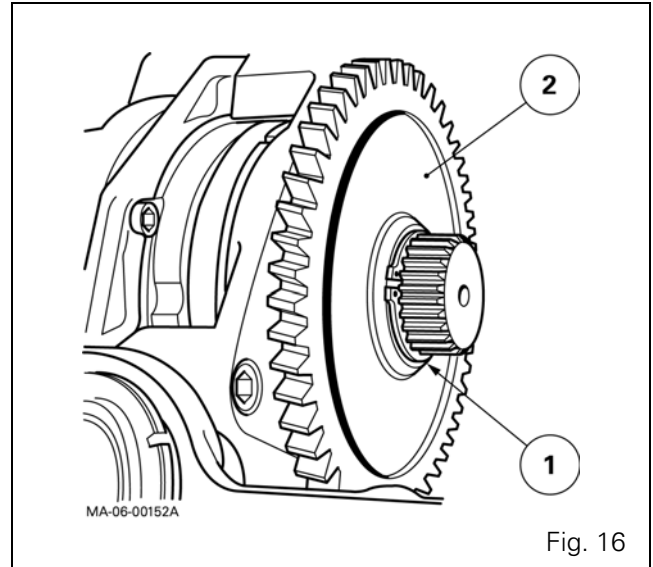

Fig. 16
- 51. Take off the circlip (1) (Fig. 16).
- 52. Remove the pinion (2) (if fitted) (Fig. 16).